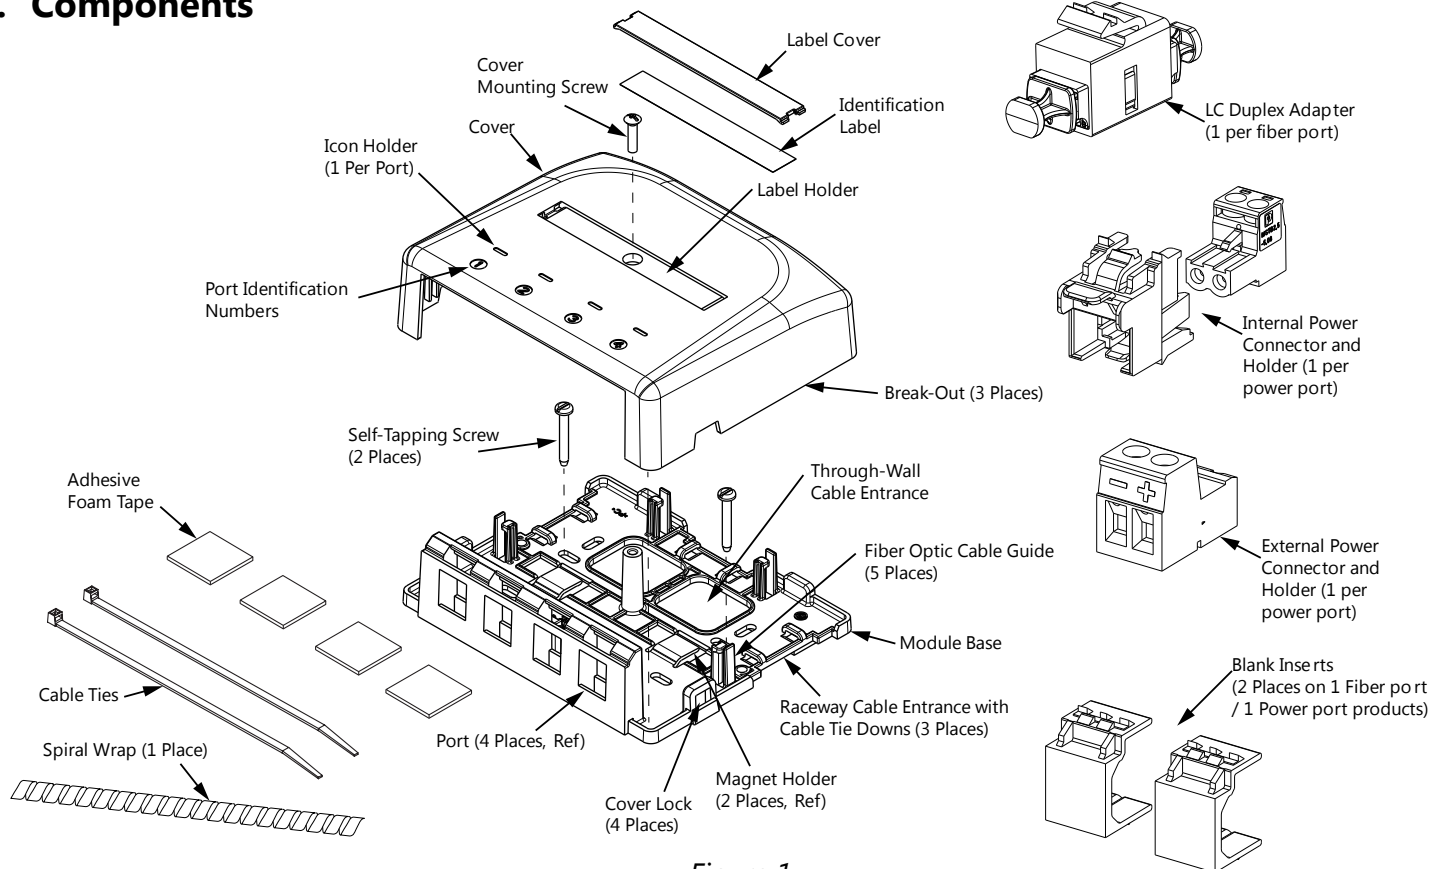

Figure 1
1. Route the cable(s) through the through-wall cable entrance and/or raceway cable entrance of the module base (shown in Figure 1). For installation with electrical box it is recommended to strain relief the cables at the electrical box and run the individual conductor wires and fiber subunits into the module.